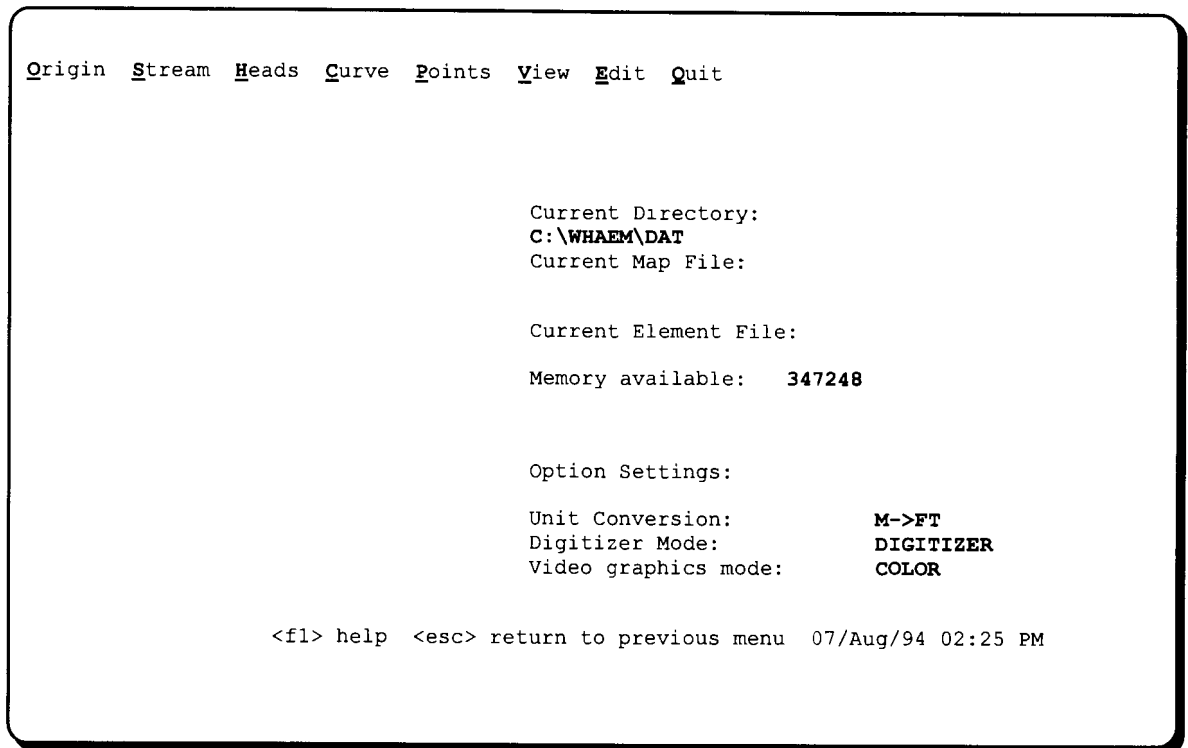

Figure 6 GAEP Digitize Submenu.
- Press <D> in the main GAEP menu. Enter the DIGITIZE module (**Figure 6**).